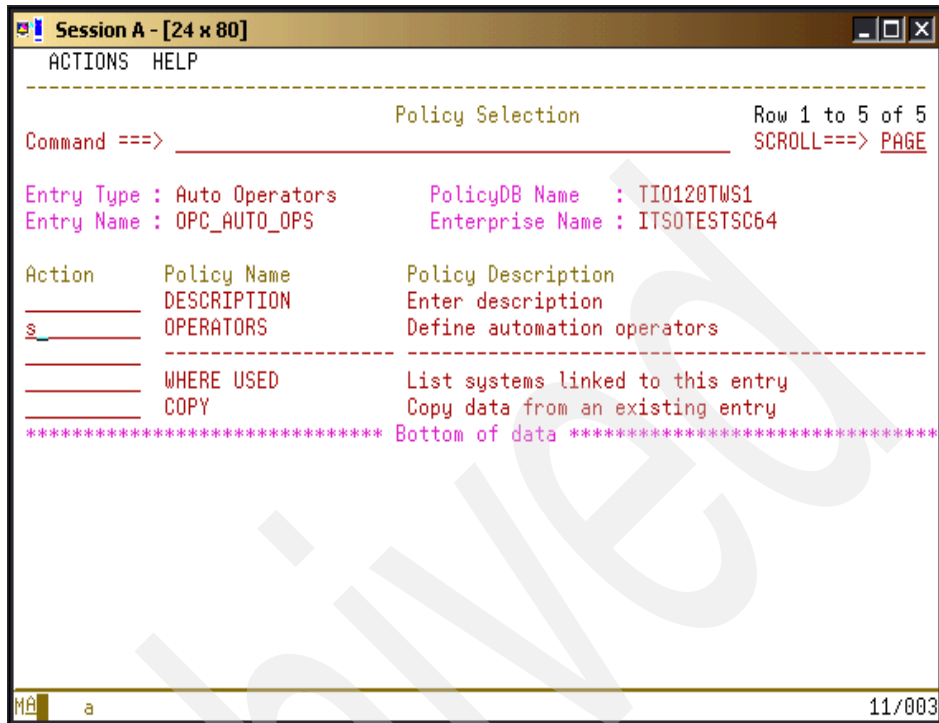

Figure 4-15 OPC_AUTO_OPS Policy Selection panel
2. Place an s in the Action column next to OPC_AUTO_OPS and press Enter. The Policy selection panel that is shown in Figure 4-15 on page 117 displays.